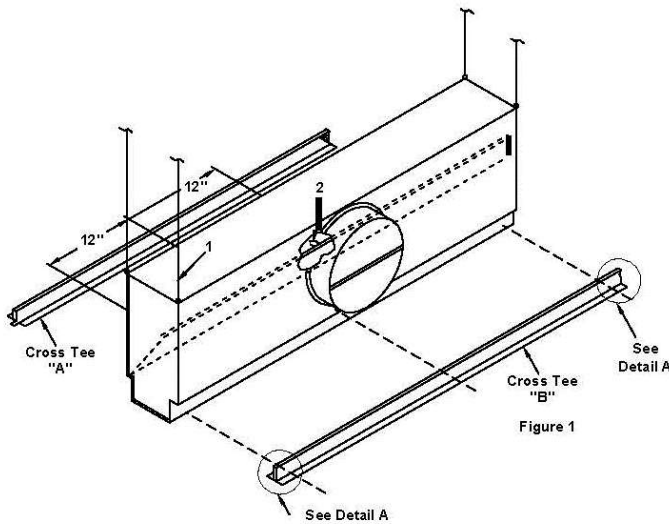

Figure 1
(Figures 1 and 2)
Refer to Figure 1 for general installation requirements. When unit is installed in the field for ceiling assembly refer to Figure 2 and plan view as shown. See reverse side information for units installed adjacent to cross tees.
1. Using 12 SWG galvanized steel wire, support all four (4) corners of the grid module in which unit is to be installed in and at center of 4' cross tees.
2. As shown in Figure 1 cut off ends of tabs of adjacent cross tees and secure with 3 #6 x 1/2" sheet metal screws. Avoid distorting cross tees when tightening screws.
**(Figures 1 and 2)**
Refer to Figure 1 for general installation requirements. When unit is installed in the field for ceiling assembly refer to Figure 2 and plan view as shown. See below information for units installed adjacent to cross tees.